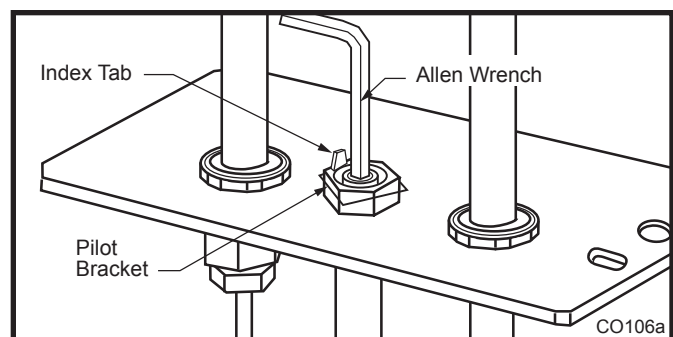

Fig. 70 Remove pilot orifice.
2. Remove pilot orifice with Allen wrench. (Fig. 70)